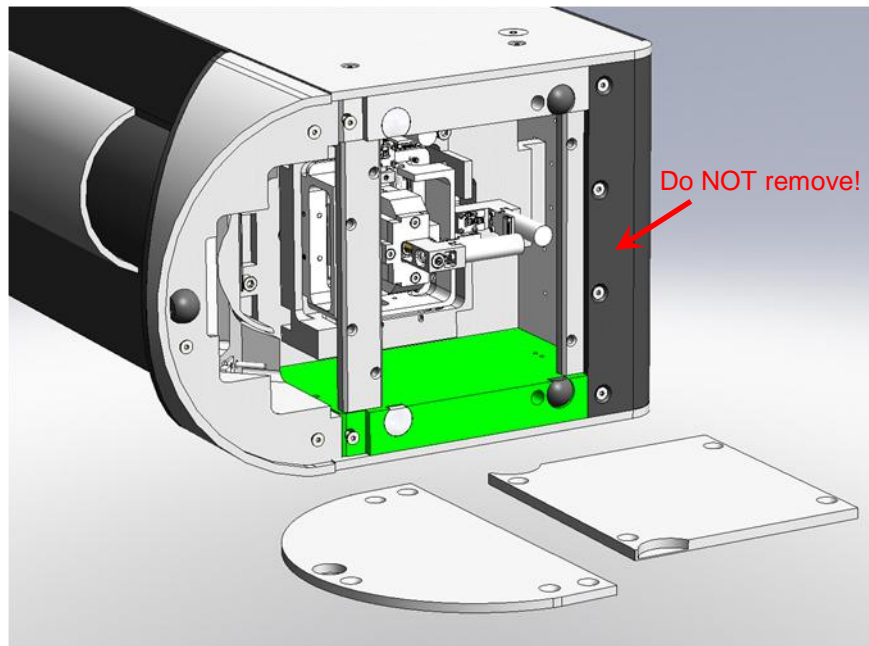

Fig. 2-3. Bottom panels of the measuring unit removed
1. Place the measuring unit on a smooth surface covered with clean tissue to prevent scratching the unit. Remove bottom panels of the measuring unit of SOLVER NEXT (Fig. 2-3).
ATTENTION! Never remove the rear panel of the measuring unit (Fig. 2-3) because it can be assembled only at the factory.